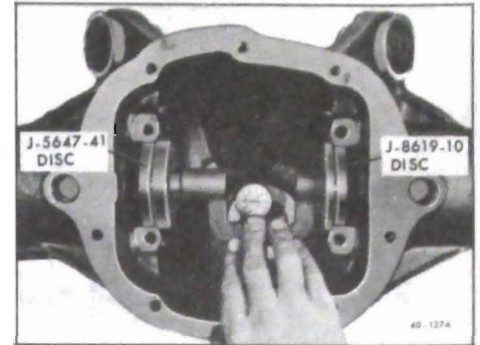

Figure 40-105 - Checking Pinion Depth
8. Be certain differential bearing support bores are free of dirt and burrs. Install indicator gage in carrier so that small diameter portion of discs rest in differential bearing pedestal support bores. Spring loaded center of gage must be located in centering hole of gage plate, and ball-tipped contact button of dial indicator must be positioned to bear against outer edge of gage plate top surface. See Figure 40-105.